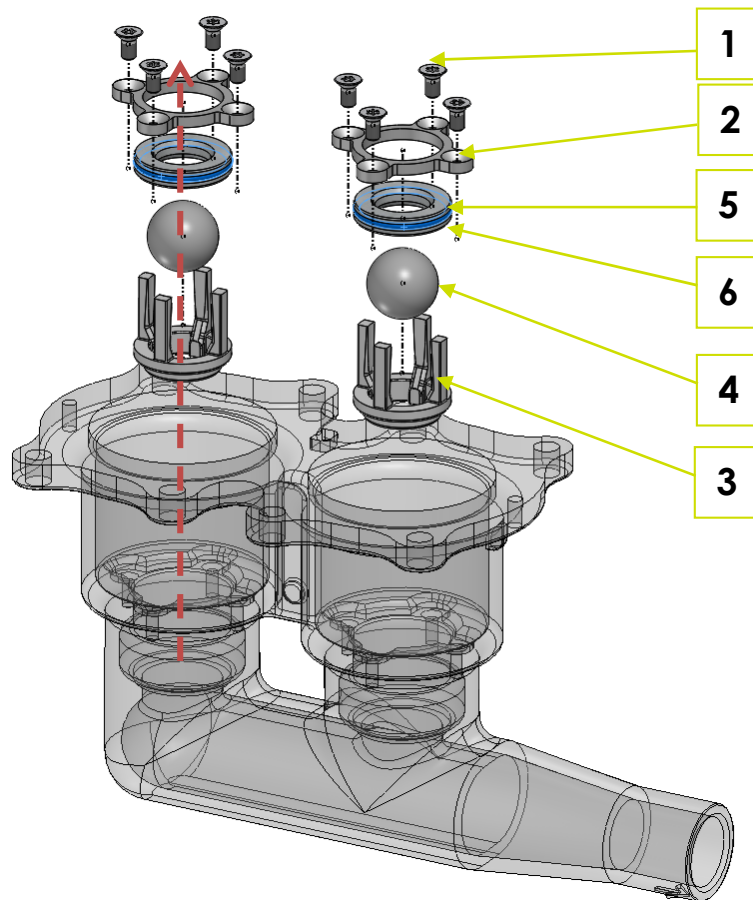

Fig. 6-3: Removing the media valves in the cylinder cover
1. Unscrew all eight countersunk head screws M6x16 (1) with a 4 mm Allen key (Fig. 6-3: Dismantling the media valves in the cylinder cover).
2. Take out both retaining stars (2).
3. Take out both valve seats (5) with the O-rings (6).
4. Take out both cages (3) and balls (4).